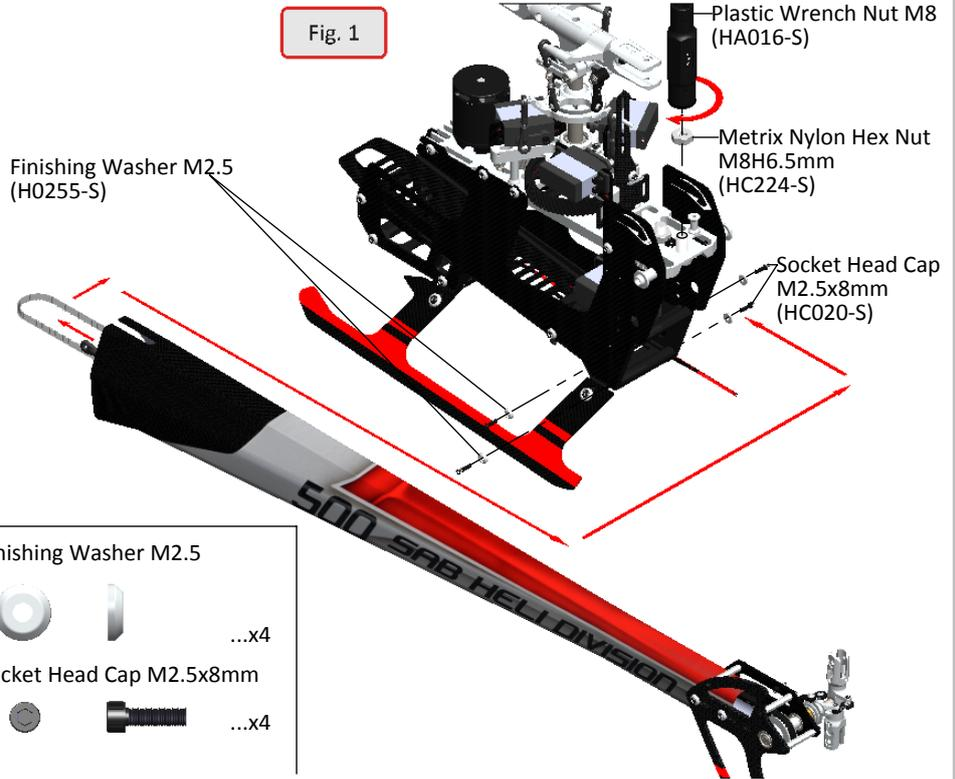

Fig. 1
- Insert the boom in place helping enlarging the frame (Fig 1,2).